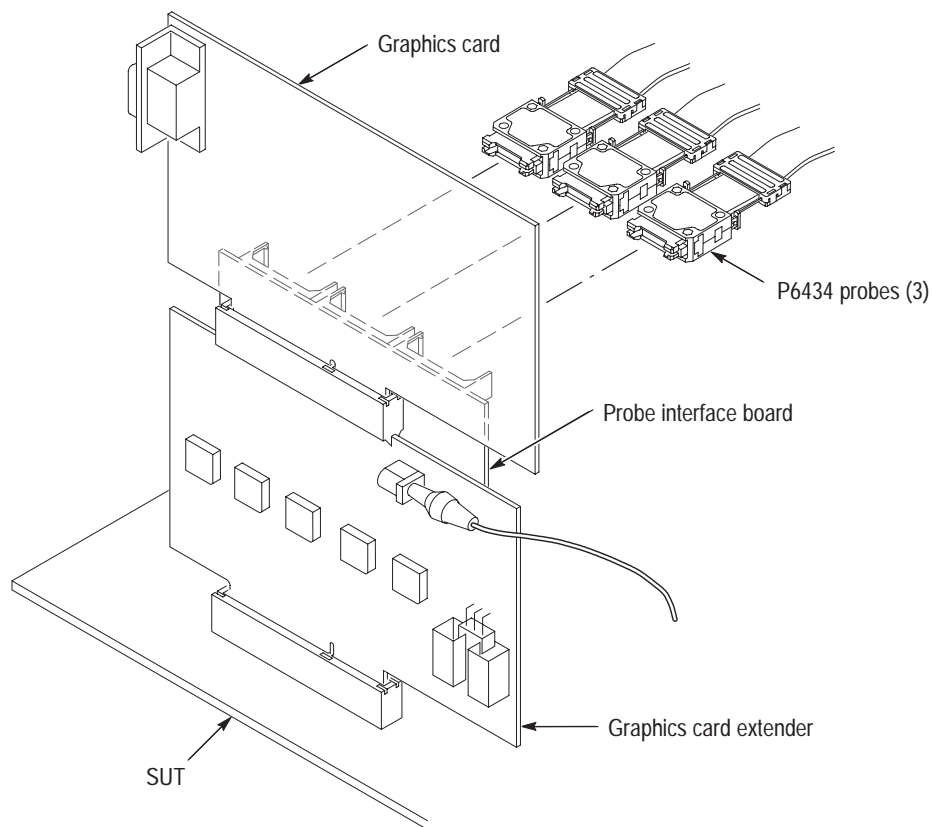

Figure 1-4: Connecting the probes to the probe adapter
9. Connect the P6434 probes to the Mictor connectors on the probe interface board. See Figure 1-4. These are connected to the signal pins as shown in Table 1-1 through Table 1-5.